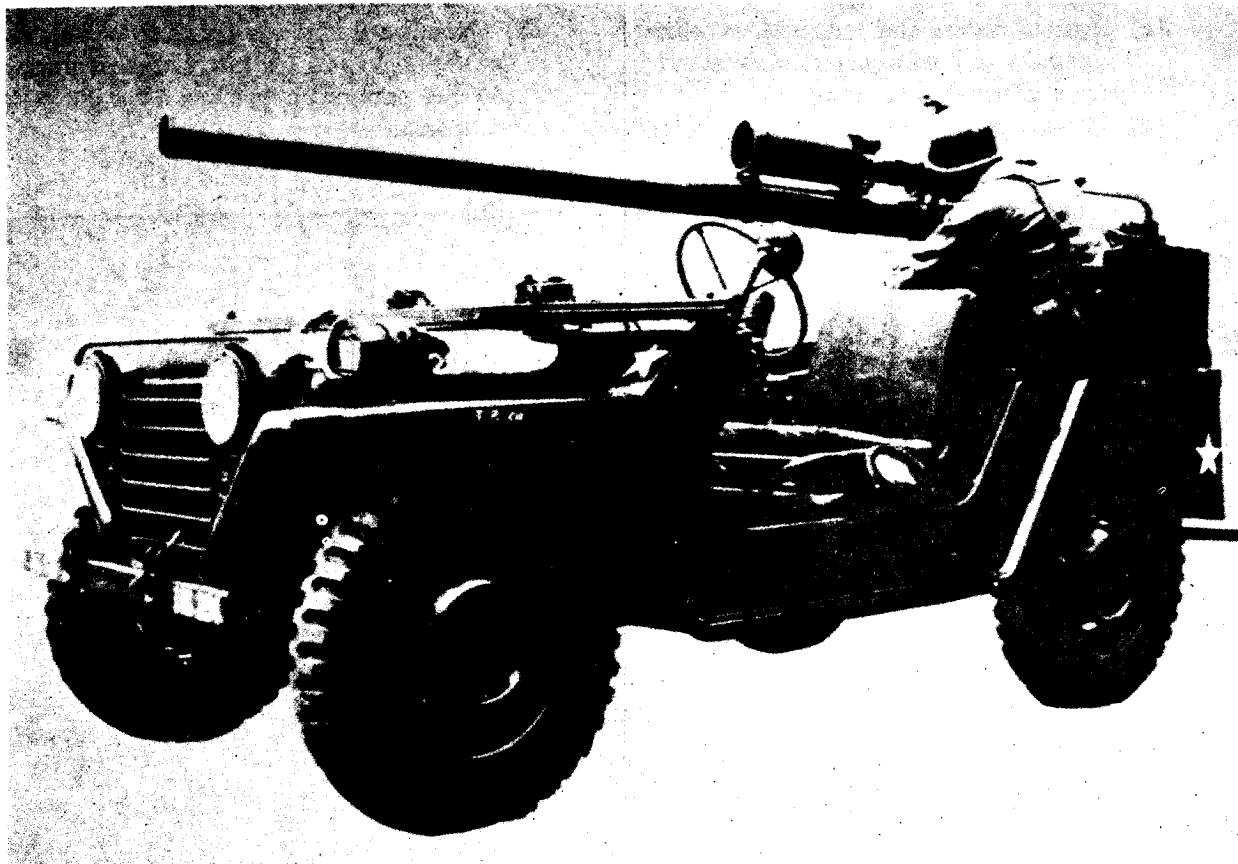

Figure 23. Gunner's position, 106-mm rifle.
- (3) Aiming for leads. The same methods and exercises used with the caliber .50 machinegun are used with 106-mm rifle, except that the lead dot is placed in the center of mass of the target instead of the leading edge (para 46).
*b. Gunner's Position 106-MM Recoilless Rifle (Fig 23).* The same position used with the M92D sight is used with the Crew-Served Weapon Night Vision Sight, except the head must be moved forward.